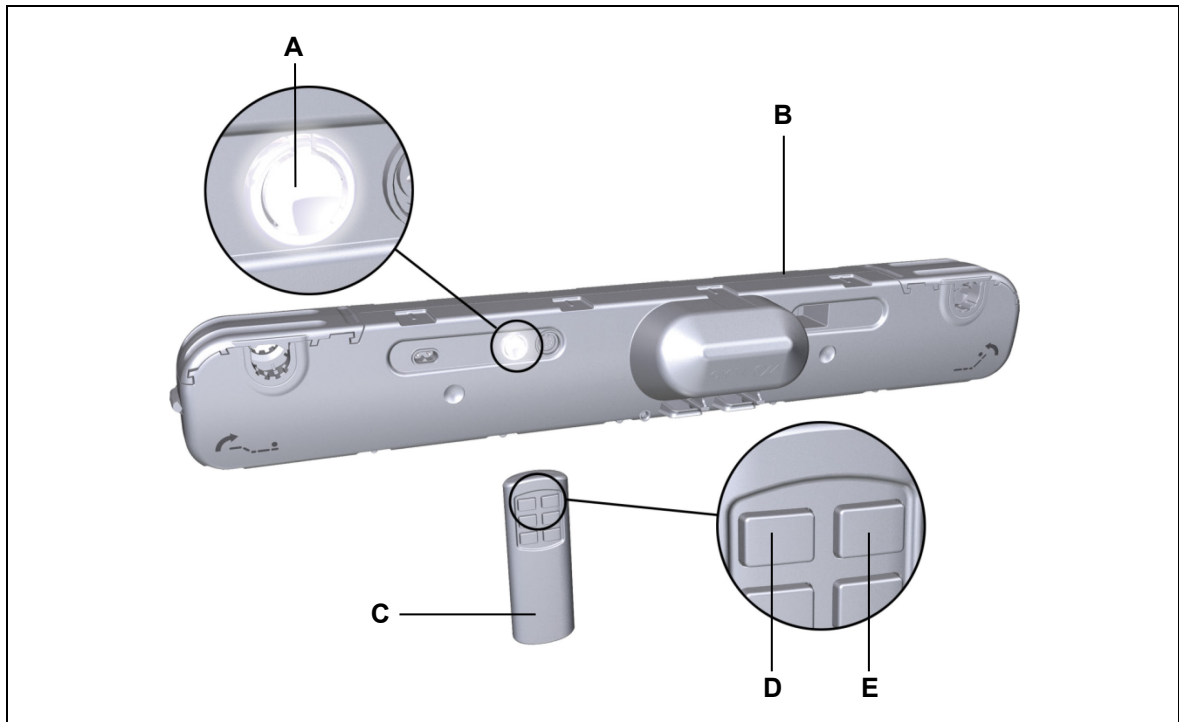

Figure 23 Example: Configuring the RF ECO hand-held remote
- 1 Press the function key on the drive (**A** in Figure 23) twice (a quick double click). The drive will now be in the teach-in (configuration) mode for approximately 10 seconds. The LED on the function key lights up.
- 1 Press the function key on the drive (**A** in Figure 23) four times quickly.